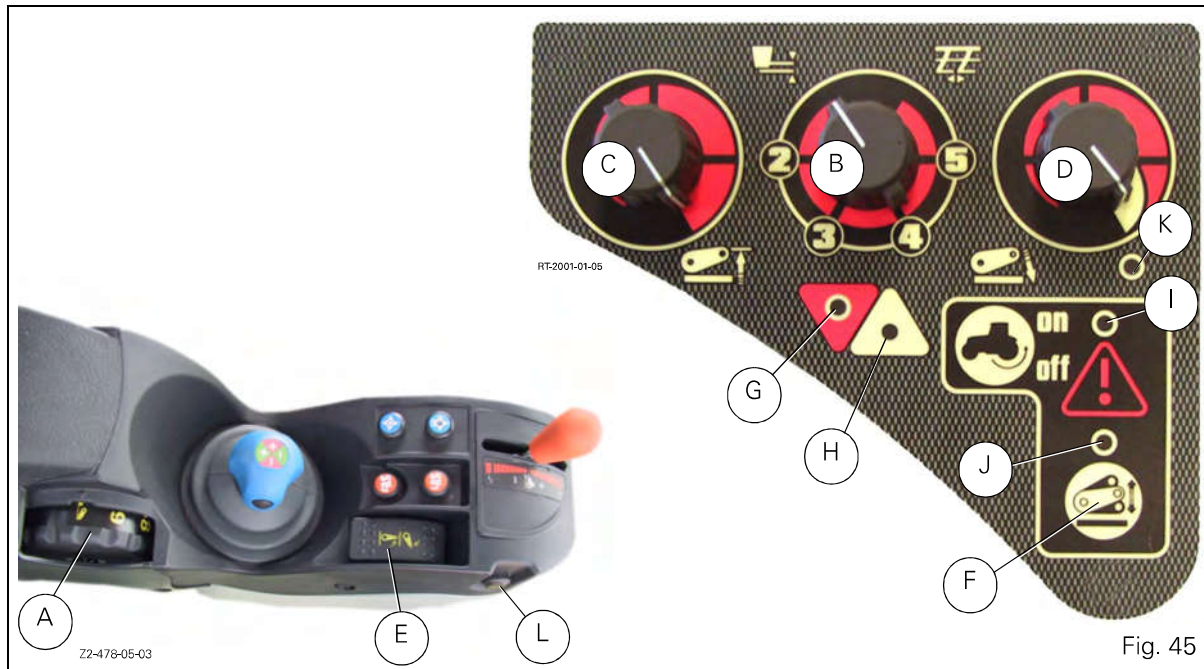

Fig. 45
- Select the minimum position with the knob B, Fig. 45.